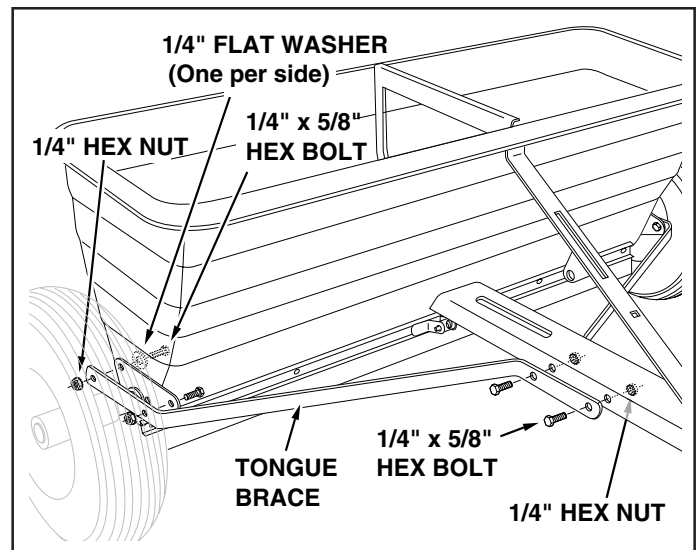

FIGURE 3
5. Assemble one end of a tongue brace to the side of the tongue using two 1/4" x 5/8" hex bolts and 1/4" hex nuts. **Do not tighten yet.** See figure 3.
6. Assemble the other end of the tongue brace to the triangular plate on the end of the spreader. Use a 1/4" hex bolt and 1/4" hex nut in the front hole of the plate. Use a 1/4" hex bolt, 1/4" flat washer and 1/4" hex nut in the rear hole, with the bolt and washer assembled on the inside of the hopper as shown in figure 3. **Do not tighten yet.**